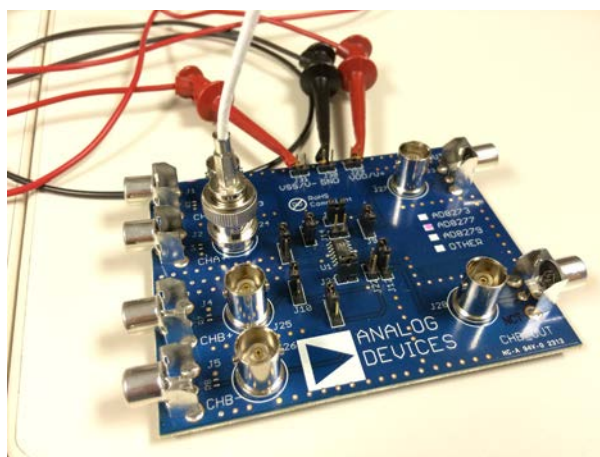

Figure 4. The AD8273/AD8277/AD8279 Evaluation Board with the Source Signal Connected
2. For a single input signal source, the AD8273/AD8277/AD8279 evaluation board performs best in the noninverting mode of operation. No jumper changes are required for this mode. Connect the signal source to the BNC connector designated J24, as shown in Figure 4.